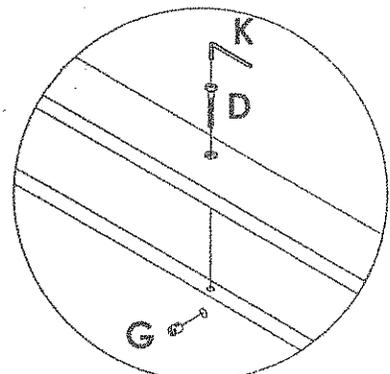

Figure 9
2. Secure the **Dividers** in place by inserting **JRN Nut (G)** into holes on **Bottom Bed Front Rail**, **Bottom Bed Rear Rail** and **Bottom Headboards**, attach **JCBC Bolt (D)** and tighten it up by using an **Allen Key (K)** as shown in **Figure 9**.